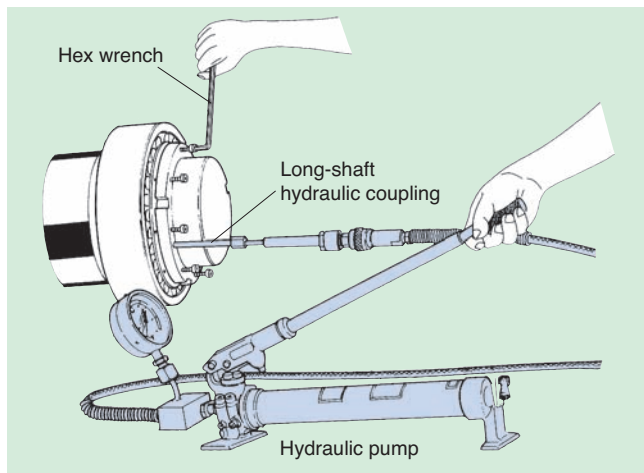

Fig. 16
- (5) Increase the hydraulic pump pressure while tightening the fastening bolts with a spanner and measure the bearing radial internal clearance with a thickness gauge, and tighten the bolts evenly until reaching the specified mounted clearance (see **Fig. 16**).